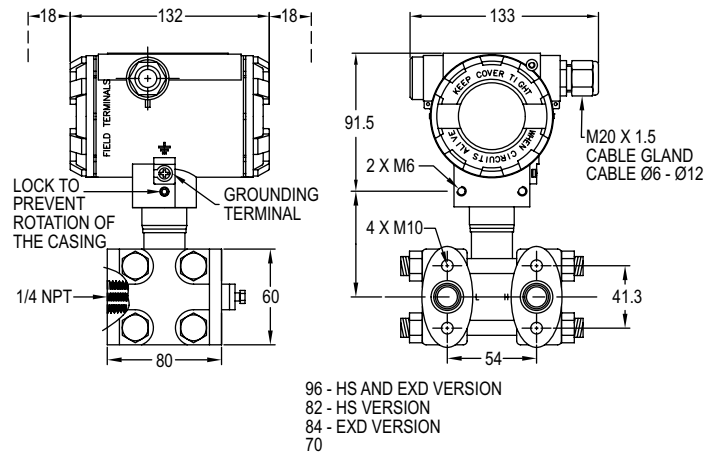

Figure 1 - Series 3500 differential pressure transmitter
3500 – Cover flanges with 1/4" female NPT process connections to mount together with a valve manifold (see Figure 1).
8.2.2. The Series 3500 transmitters with connecting cover (Figure 1) are designed for installation on 3-valve or 5-valve manifolds to a 2" pipe or to a flat surface using the mounting bracket shown in Figure 8, and Figure 9.